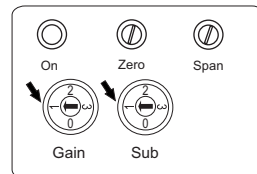

Fig.3
3) Use the Zero potentiometer to set the current value for the actual level to 4mA. Turn the potentiometer clockwise to increase current. Turn the potentiometer counter-clockwise to decrease current (If the adjustment wasn't possible, alter the Sub and Gain position and try to adjust the minimum value (4mA) through the Zero Potentiometer)(Fig.3)